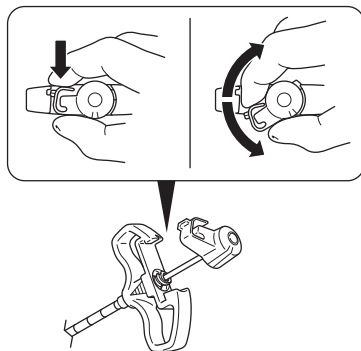

Figure 2 – Remove the Stylet from the Access Cannula
4. Unlock and remove the stylet from the access cannula (figure 2).